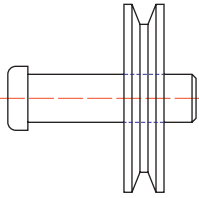

Fig. 10.18 The revised spindle.dwg drawing
7. Open the drawing **Fig15.dwg** and make changes as shown in Fig. 10.18.